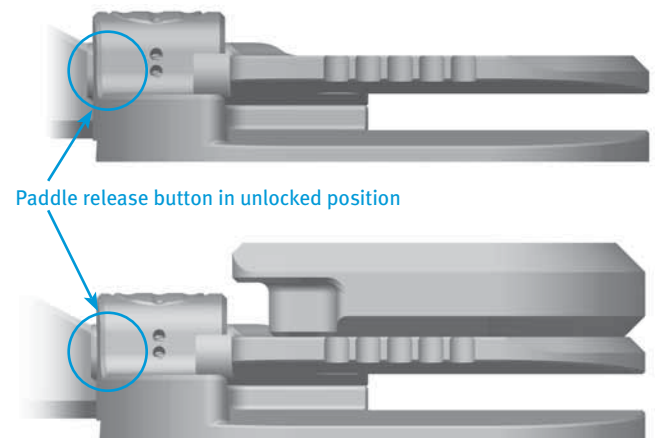

Fig. 32
- To release, simply push the button created by the femoral paddle when it is in the lock position until it is flush with the face of the spacer (Fig. 32).